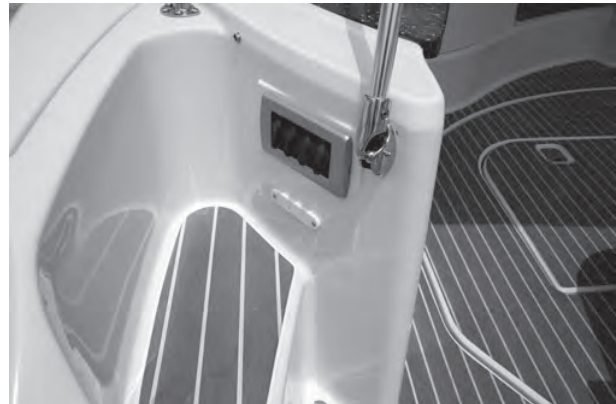

Figure O3: Bow Support Pole Deck Mount
- 3) Attach the support poles to the respective port and starboard deck mounts located at the transom. Slide the support poles down into the deck mount and secure with the pin and lanyard. See Figure O3.